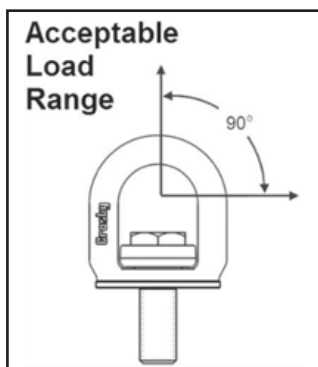

Figure 4
- The Lifting Point can be loaded in any direction shown in Figure 4.